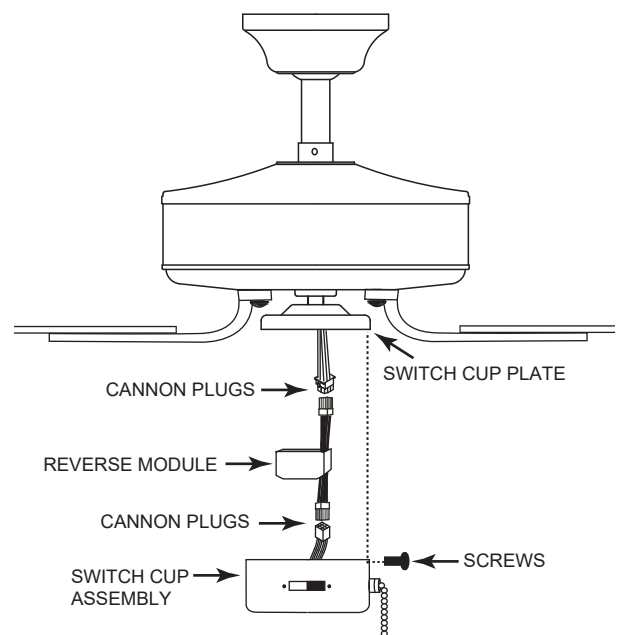

Fig. 3
- Connect the 'female' cannon plug on the reverse module to the cannon plug from the fan flange (Fig. 3)